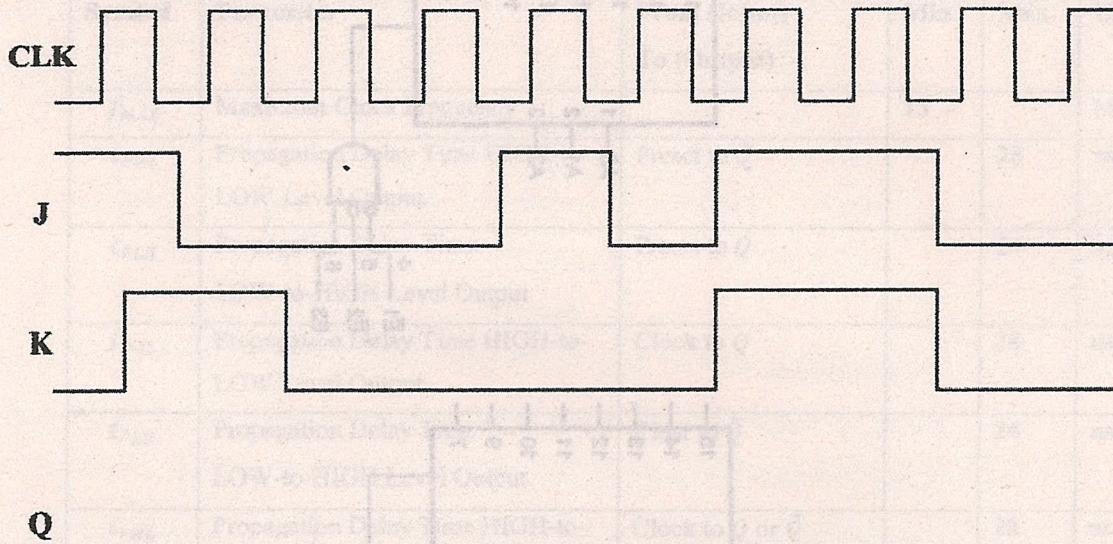

Figure 12
- Draw the timing diagram of the output (Q) of a positive edge triggered JK flipflop for the given J, K and Clock inputs as shown in Figure 12 in page 12. The flipflop is initially Reset. Use the given space in page 11 to draw the output (Q) and attach it to your answer script.